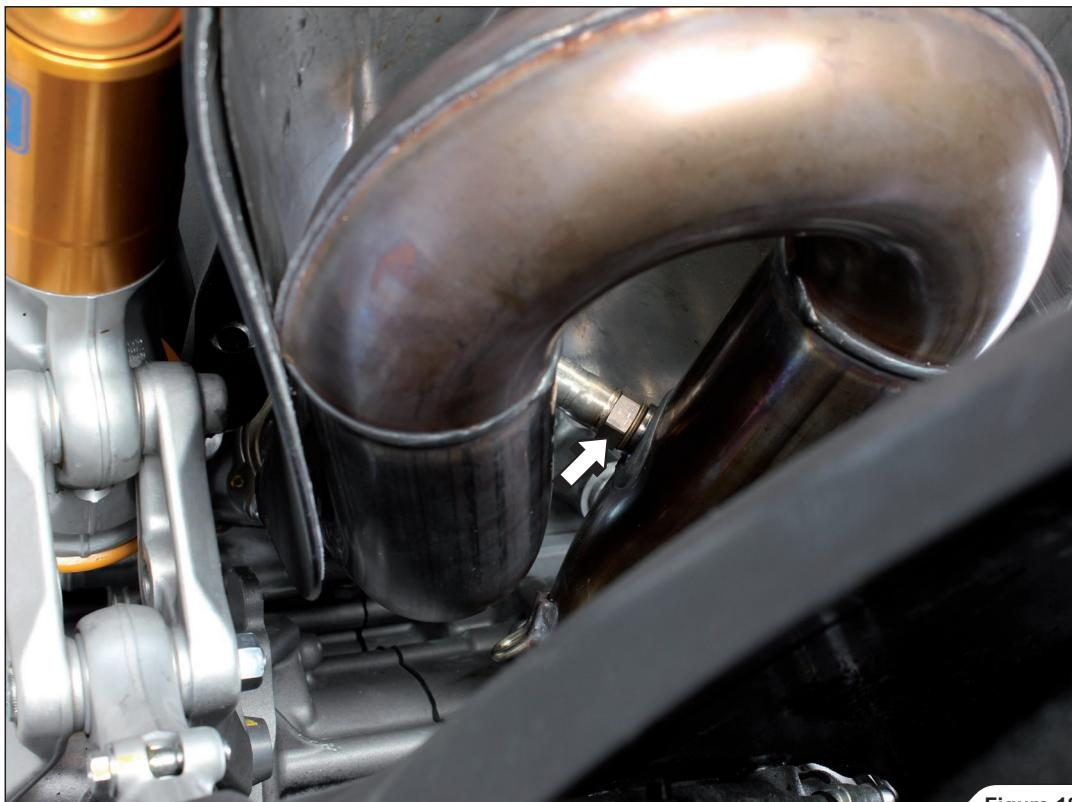

Figure 18
14. Carefully unscrew the rear lambda sensor (Figure 18).